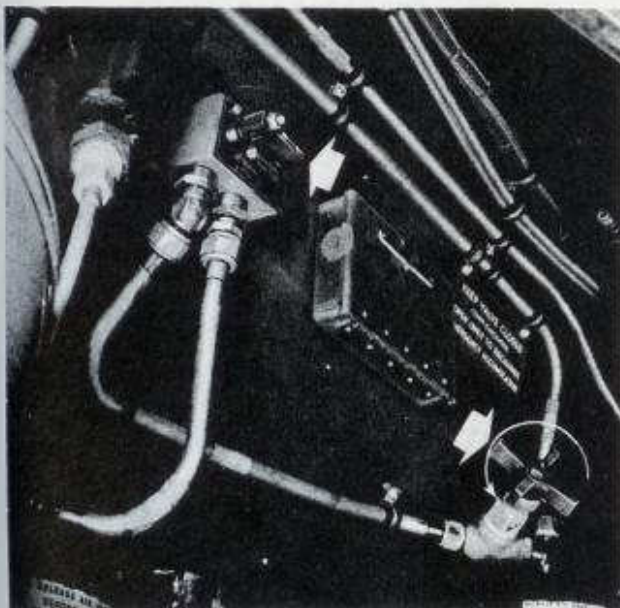

Figure 5 - Servicing Emergency Accumulator
(2) In some airplanes the hydraulic pump is controlled by an "ON-OFF" switch on the pilot's control panel. This switch must be "ON" to maintain pressure automatically.
b. **EMERGENCY BRAKE SYSTEM.** - A spare accumulator and auxiliary metering valves provide emergency brake operation. A red warning lamp on the pilot's instrument panel lights when pressure in the emergency system falls to approximately 700 pounds per square inch. To charge the emergency accumulator, open the manual shut-off valve. If a selective check valve is installed, place it in "SERVICING" position, unless it is lockwired in "NORMAL" position. (These units are located on the right side wall at the rear of the control cabin. See figure 5.) Build up 800 pounds pressure in the system, then return the selective check valve to "NORMAL" position and close the manual shut-off valve.